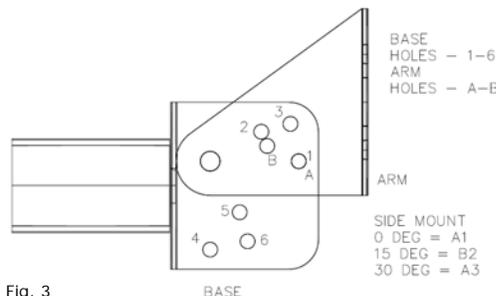
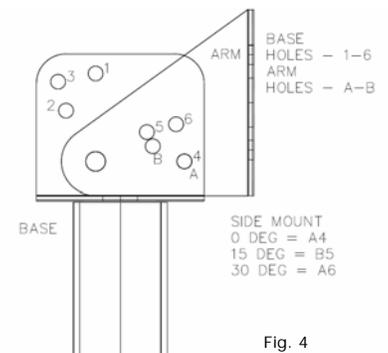

Fig. 3
Fig. 4
- 3: Orientate slip fitter to either Side Mount position or Top Mount Position (See Fig. 3 and Fig. 4)